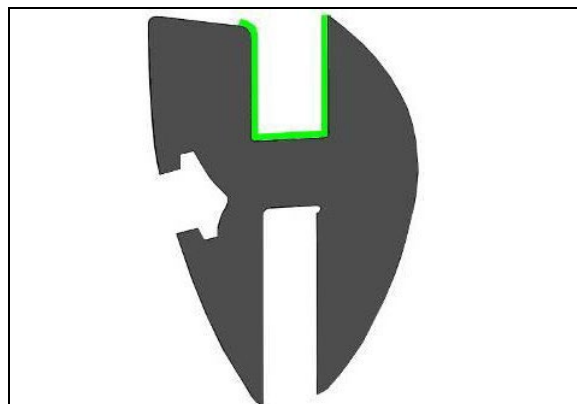
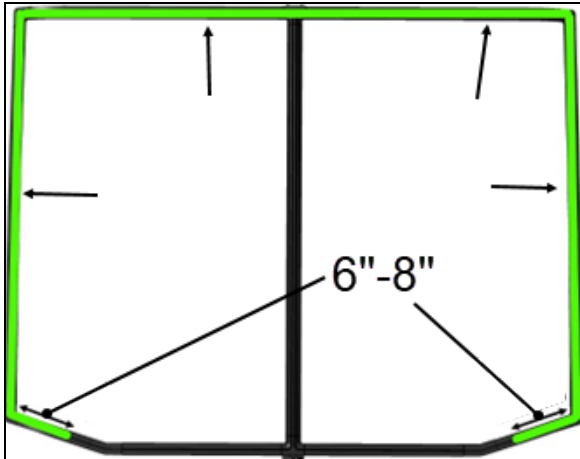
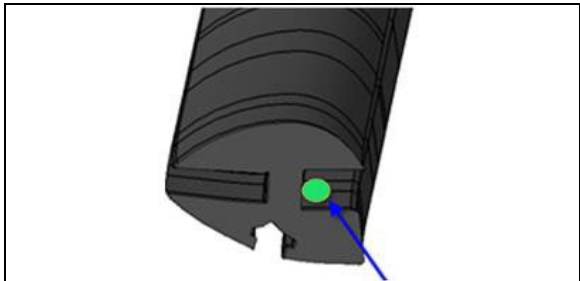

FIGURE 54
FIGURE 55
FIGURE 56: BEAD OF BLACK SIMSON 70-03 SEALANT
- Clean the rubber extrusion groove (Figure 54) that will be in contact with the front fiber panel on the 3 sides and on a length of 8" at the bottom, both sides (Figure 55).
3. Apply a 1/8" (3 mm) bead of black Simson 70-03 sealant at the bottom of the groove (Figure 56) that will be in contact with the front fiber panel on the 3 sides and on a length of 8" at the bottom, both sides (Figure 55).